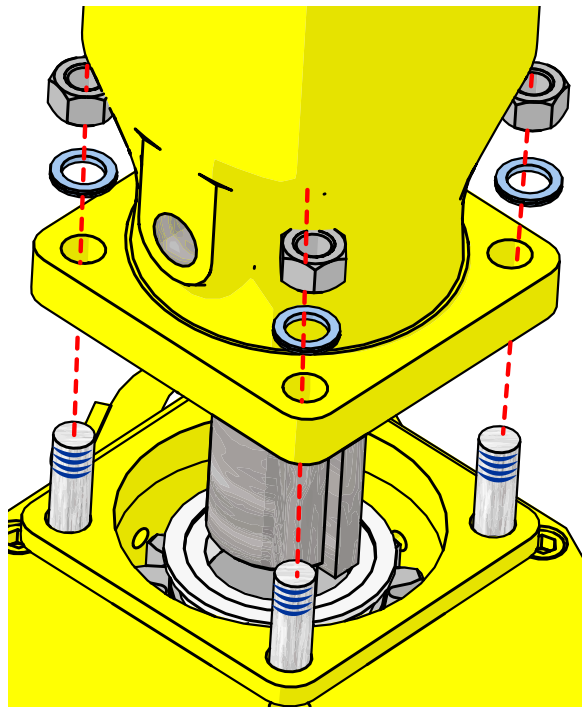

Figure 1: Remove spinner motor.
- r. Apply blue Loctite 242 to the four (4) exposed bolt threads.
- s. Reinstall washers and nuts in the proper order. See Figure 1.